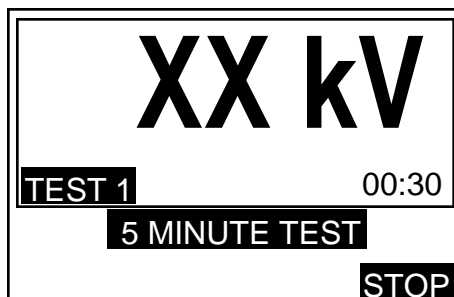
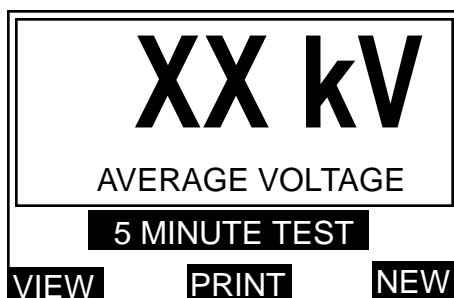

Figure 10. Stirring mode display screen.
Figure 12. Average breakdown voltage display screen.
- When breakdown occurs (or if the maximum voltage is reached) the test voltage is cut off, the high voltage indicator light goes out and the test set begins its oil sample stirring period. The stirrer rotates for a period of 30 seconds and the breakdown voltage value of the previous test is retained on the display. The display screen appears similar to figure 10.
- When step (5) is finished the test voltage then begins to rise again as in step (3), this time for 'TEST 2', and the cycle of events repeats.
- Steps (3), (4), (5) and (6) are repeated so that the test voltage is applied for a third time. After the test voltage has been cut off on the third test, the display shows the average breakdown voltage value of the three tests in the sequence. The display appears similar to figure 12.
4. When breakdown occurs (or if the maximum voltage is reached) the test voltage is cut off, the high voltage indicator light goes out and the test set begins its intermediate stirring period. The stirrer rotates for a period of 1 minute and the previous breakdown voltage is retained on the display. The display screen appears similar to figure 10.
4. When the intermediate stand time has finished the test voltage begins to rise again as in step (2), this time for TEST 2, and the cycle of events repeats.
5. For this specification there are 5 consecutive tests. After the test voltage has been cut off on the last test, the display shows the average breakdown voltage value of the 5 tests in the sequence. The display appears similar to figure 12.
4. When breakdown occurs (or if the maximum voltage is reached) the test voltage is cut off, the high voltage indicator light goes out and the display indicates that the 1 minute intermediate stirring period is being undertaken. Stirring time remaining is shown in seconds, alternating with the word 'STIRRING'. The previous breakdown voltage is retained on the display, which appears similar to figure 10.
5. When the intermediate stir time has finished the test voltage begins to rise again as in step (3), this time for TEST 2, and the cycle of events repeats.
6. For this specification there are 5 consecutive tests. After the test voltage has been cut off on the last test, the display shows the average breakdown voltage value from the 5 tests in the sequence. The display appears similar to figure 12.